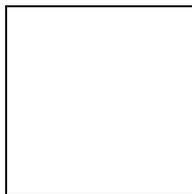

Figure 11
- Mount the second comparator bracket to the tailstock as shown in Figure 11 using the supplied 6mm allen head bolts. As well, the comparator pin A has been installed. Notice the flat part of the pin faces the bolt of the lock handle.